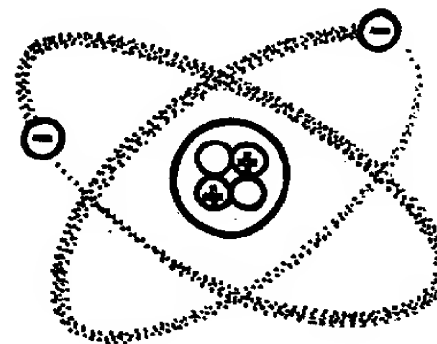

Fig. 36
One model represents the atom as a positively charged nucleus surrounded by negative charges called electrons (Fig. 36). The particles in the nucleus are referred to as nucleons. If an atom is neutral how will the number of protons in it compare with the number of electrons? (5) What particles, apart from protons, are found in the nucleus? (6) Are they electrically charged? (7)